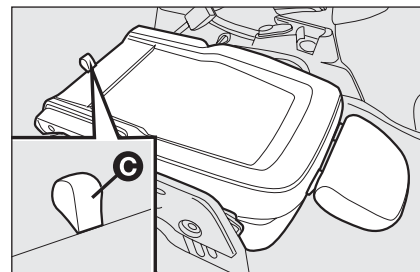

fig. 23
- ☐ pull the lever **C-fig. 23** and push the backrest down as much as possible: the seat is now completely folded.